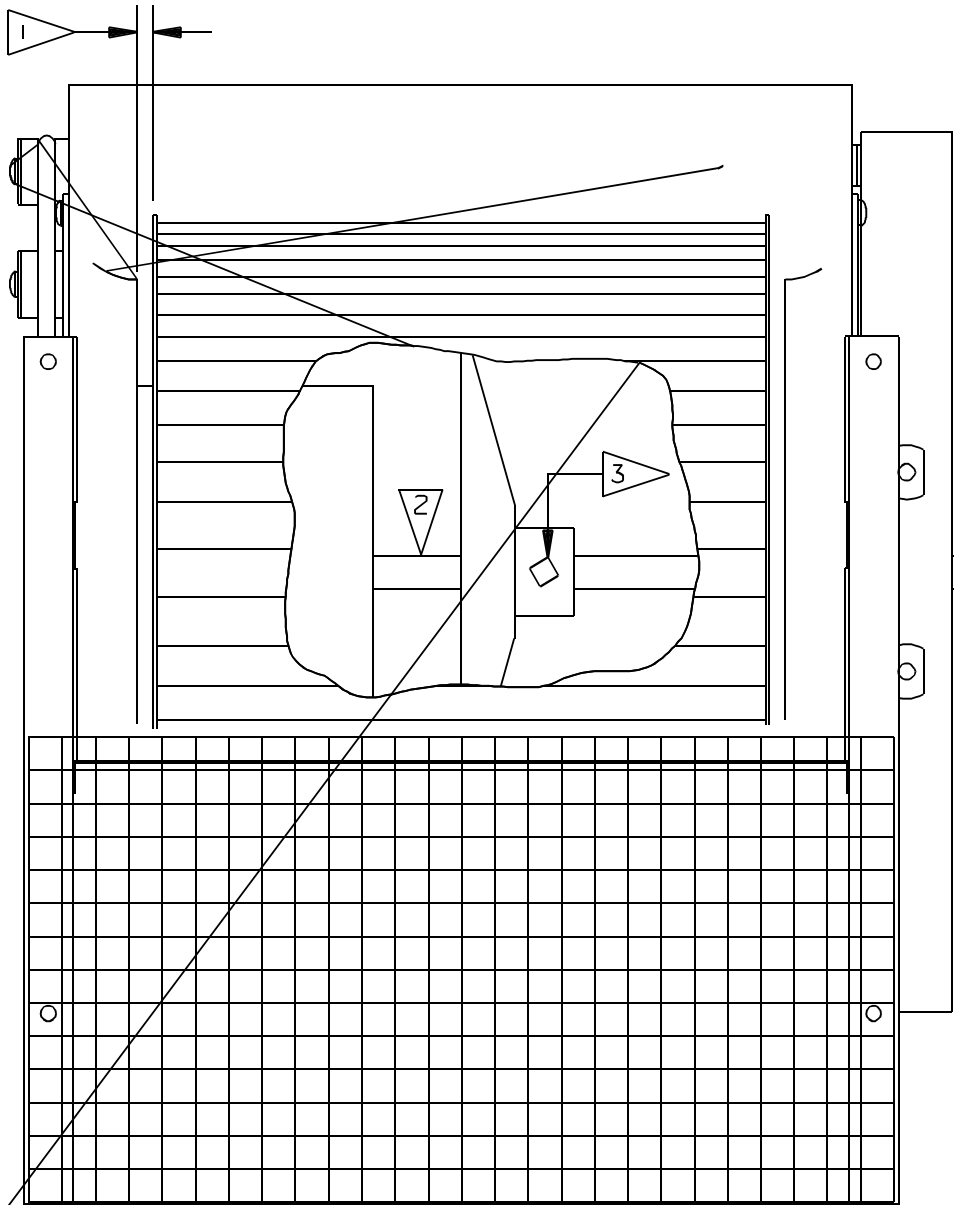

FIGURE 9
2. Remove 4 screws that attach scroll housing to basepan (See #1, Figure 9).
- Note: Upon reassembly, the references made on Figures 9 and 10 shall be used for proper reassembly.